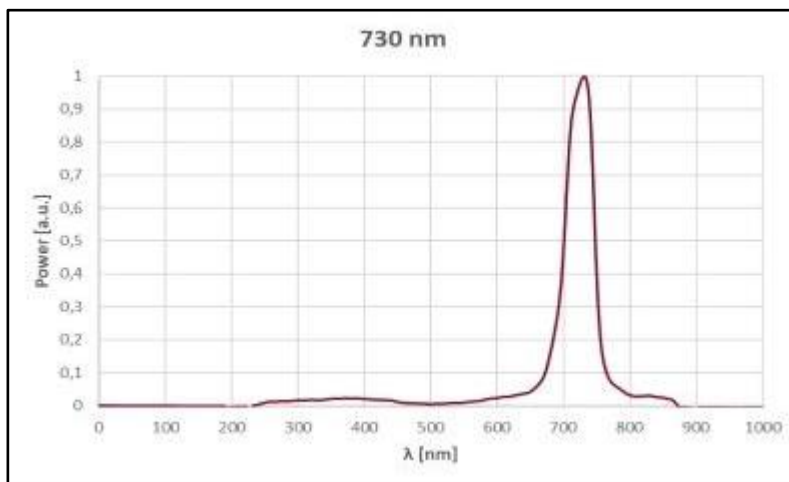

Figure 4. Spectrum view screen
- *Arrows (4)*: using the up/down arrows will increase/decrease the current percentage of the nominal output power by 1%.
- *Slide bar (5)*: it permits you to adjust the output power from 0% to 100%. Please press slightly on the right of the slide bar to control it. While dragging the slide bar, it will be in yellow, and it will change to green once a value has been selected.
On the bottom of the screen, if we click on "Spectrum view" (6), we will see the spectral power distribution of the corresponding LED (see **Figure 4**). The arrow (7) enables to return to the initial screen.